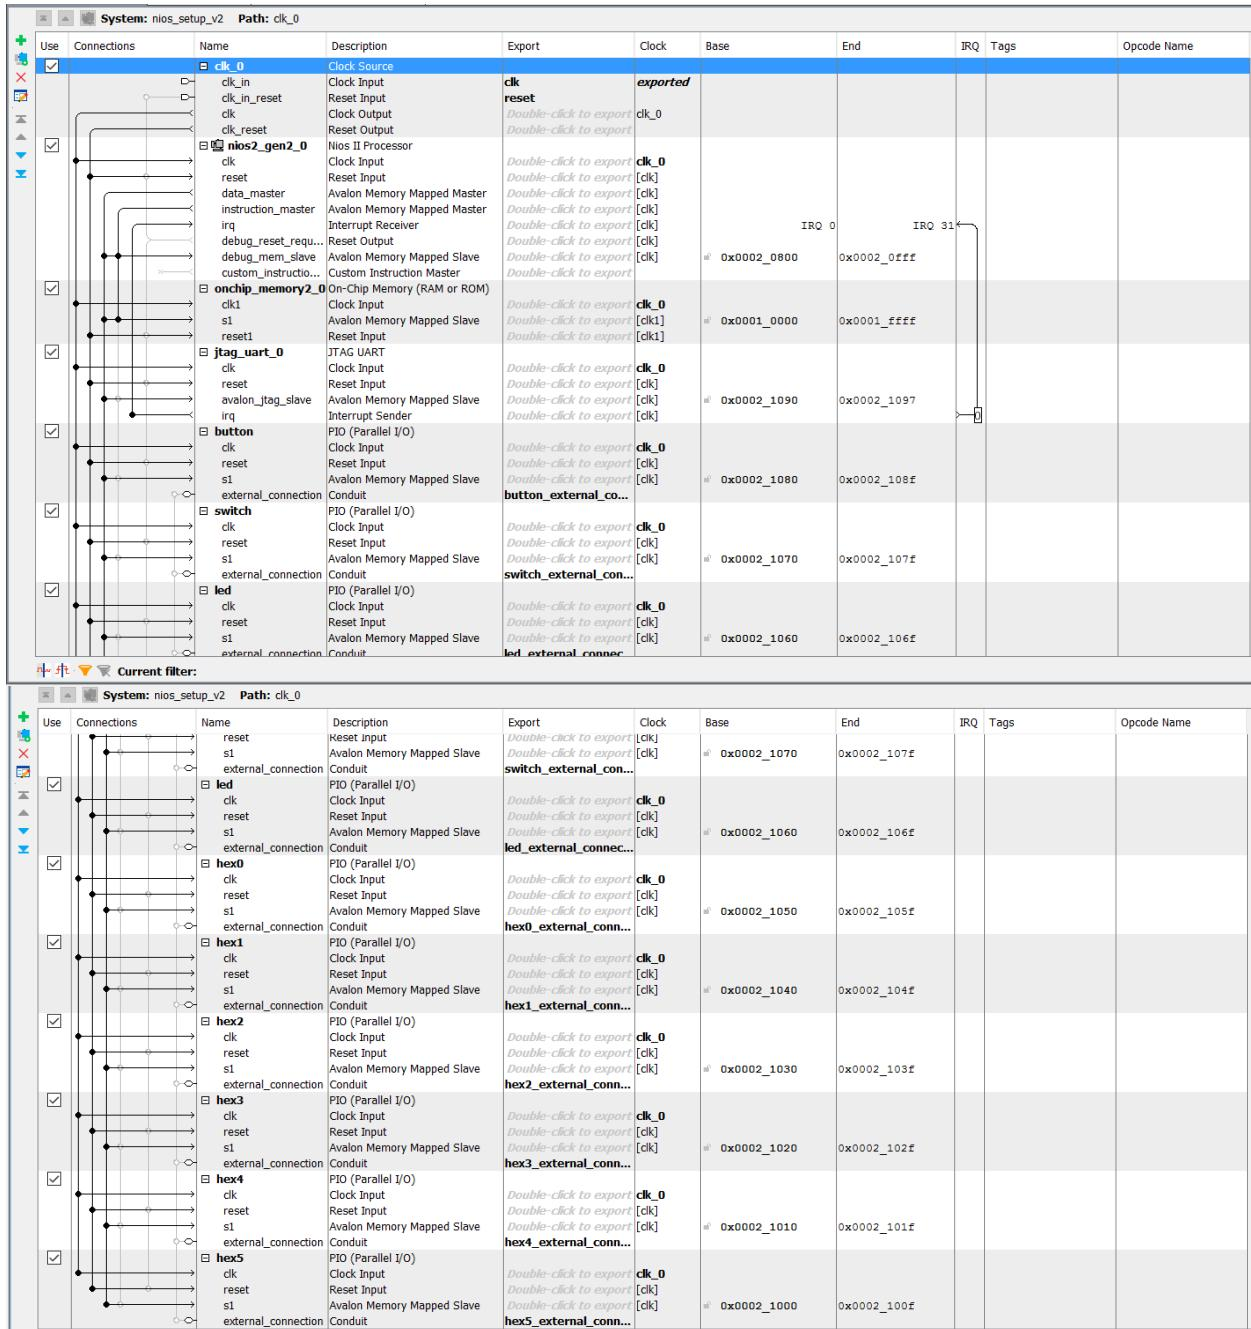

Figure 22: System Contents after Adding All 4 Seven Segment Displays
13. Figure 22): hex0, hex1, hex2, hex3, hex4, hex5.
Figure 22 on the following page.